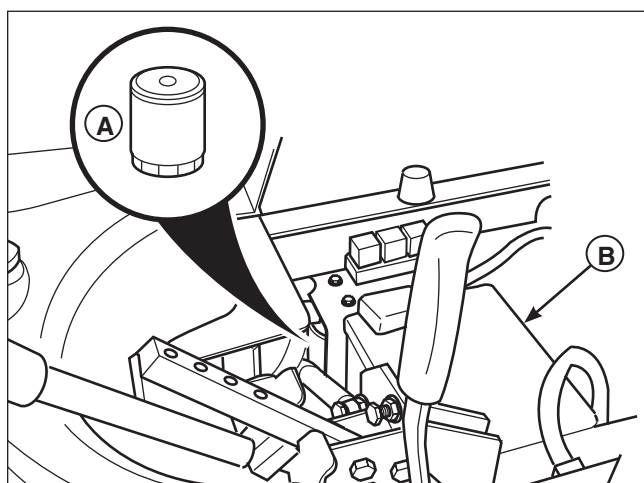

Figure 17. Hydraulic Oil Filter Location
1. Locate the hydraulic oil filter (A, Figure 17) behind the battery.